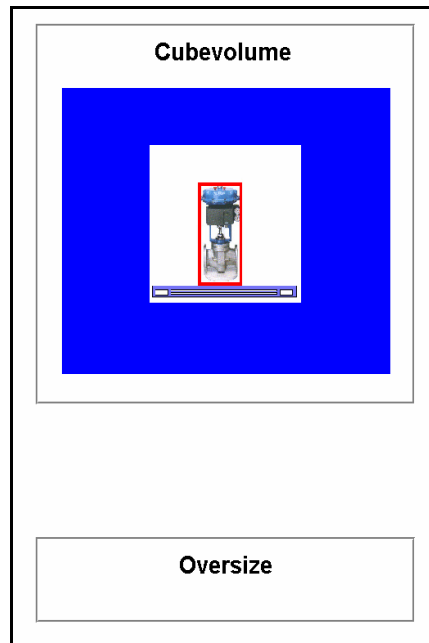

Figure 15
6. To begin the measurement process tap the graphic outlined in red, shown above in Figure 15. For information on measuring oversized freight, see “Measuring Oversized Freight” on page 18.